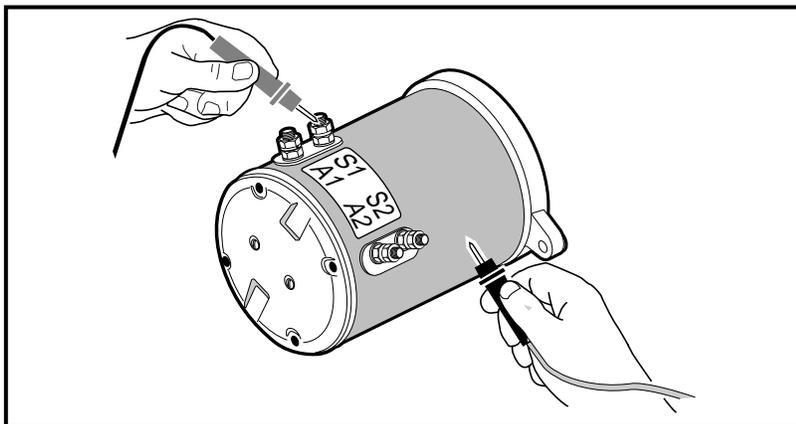

Figure 15-2 Test for Motor Short Circuits
3. Using a multimeter set to 200 ohms (Ω), place the black (-) probe on the motor housing. Scratch through the paint to ensure a good connection. Place the red (+) probe on the A1, A2, S1, and S2 terminals respectively (**Figure 15-2, Page 15-2**). Multimeter should indicate no continuity. If the readings are incorrect, the motor will need to be removed from the vehicle and repaired by a qualified technician. **See Motor Removal, Page 15-3.**
2. Using two wrenches to prevent the post from turning, disconnect the wires from the A1 and A2 terminals. Using a multimeter set to 200 ohms, place the red (+) probe on the A1 terminal and the black (-) probe on the A2 terminal (**Figure 15-2, Page 15-2**). The multimeter should indicate continuity. If the reading is incorrect, a possible open or poor contact in a brush assembly and/or open armature windings may be the cause. The motor will need to be removed from the vehicle and repaired by a qualified technician. **See Motor Removal.**
2. Using two wrenches to prevent the post from turning, disconnect the wires from the S1 and S2 terminals. Using a multimeter set to 200 ohms, place the red (+) probe on the S1 terminal and the black (-) probe on the S2 terminal (**Figure 15-2, Page 15-2**). The reading should be continuity. If the reading is incorrect, there may be an open field coil or bad connections at terminals. Remove motor from vehicle and send to a qualified technician for repair. **See Motor Removal.**